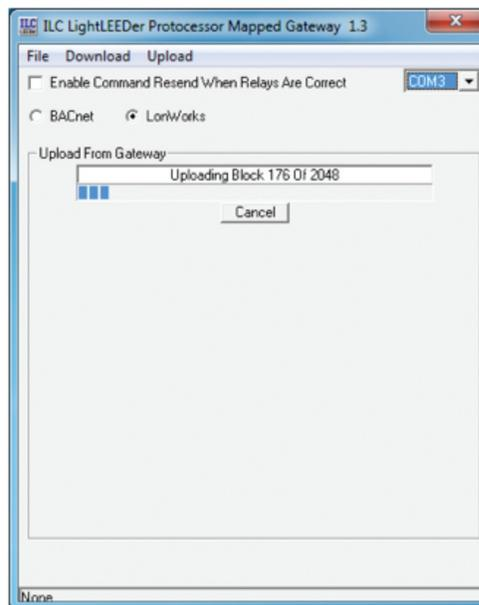

Figure 3.3 Uploading the file from the Gateway
-Upload Programming: To upload from the Gateway to the PC, set the protocol to the hardware installed, and then select "Upload" from the title bar to start the transfer. Once the upload is complete it will be verified by the program. See figures 3.3 and 3.4